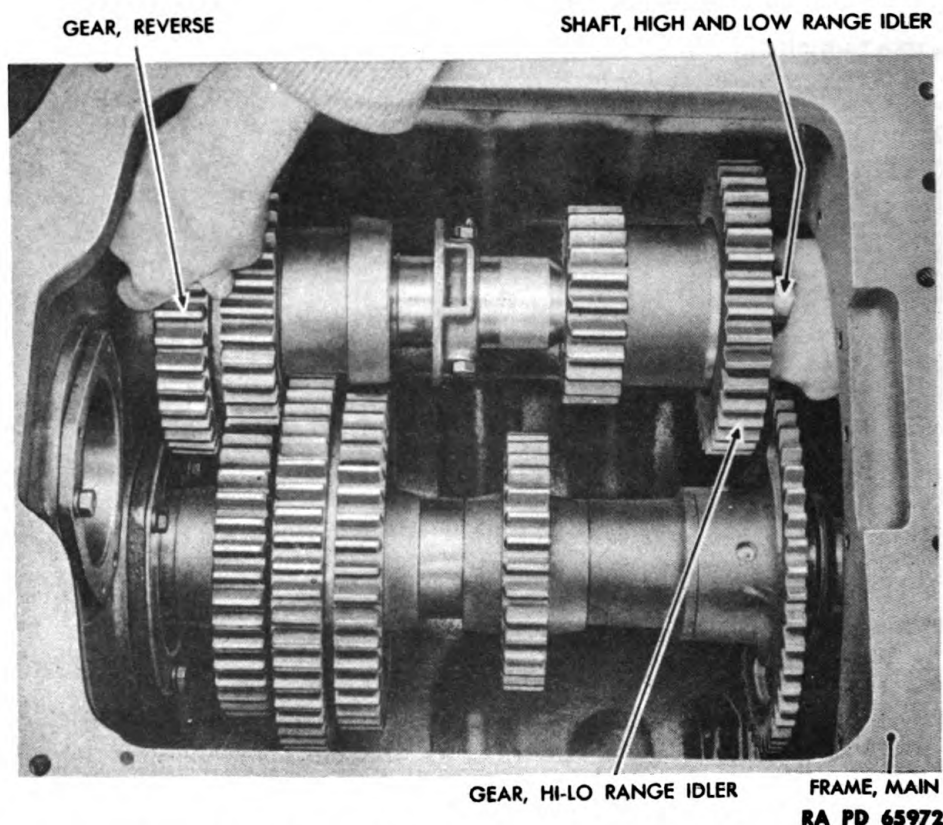

Figure 41 — Hi-Lo Range Idler Shaft and Attached Gears Removal
(17) REMOVE HIGH AND LOW RANGE IDLER SHAFT AND ATTACHED GEARS (fig. 41).